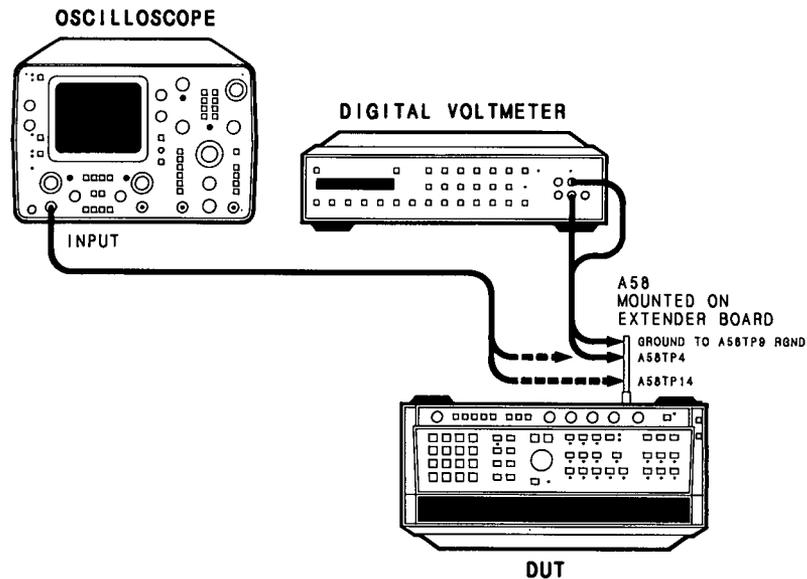

Figure 5-36. Sweep Generator Test Setup
1. Place the DUT in the test position as shown in Figure 5-36 with bottom cover removed and the A58 sweep generator assembly on an extender board. Connect the oscilloscope to A58TP4 (MKR RMP). Turn the DUT's LINE switch ON and allow one-half hour warm up time.